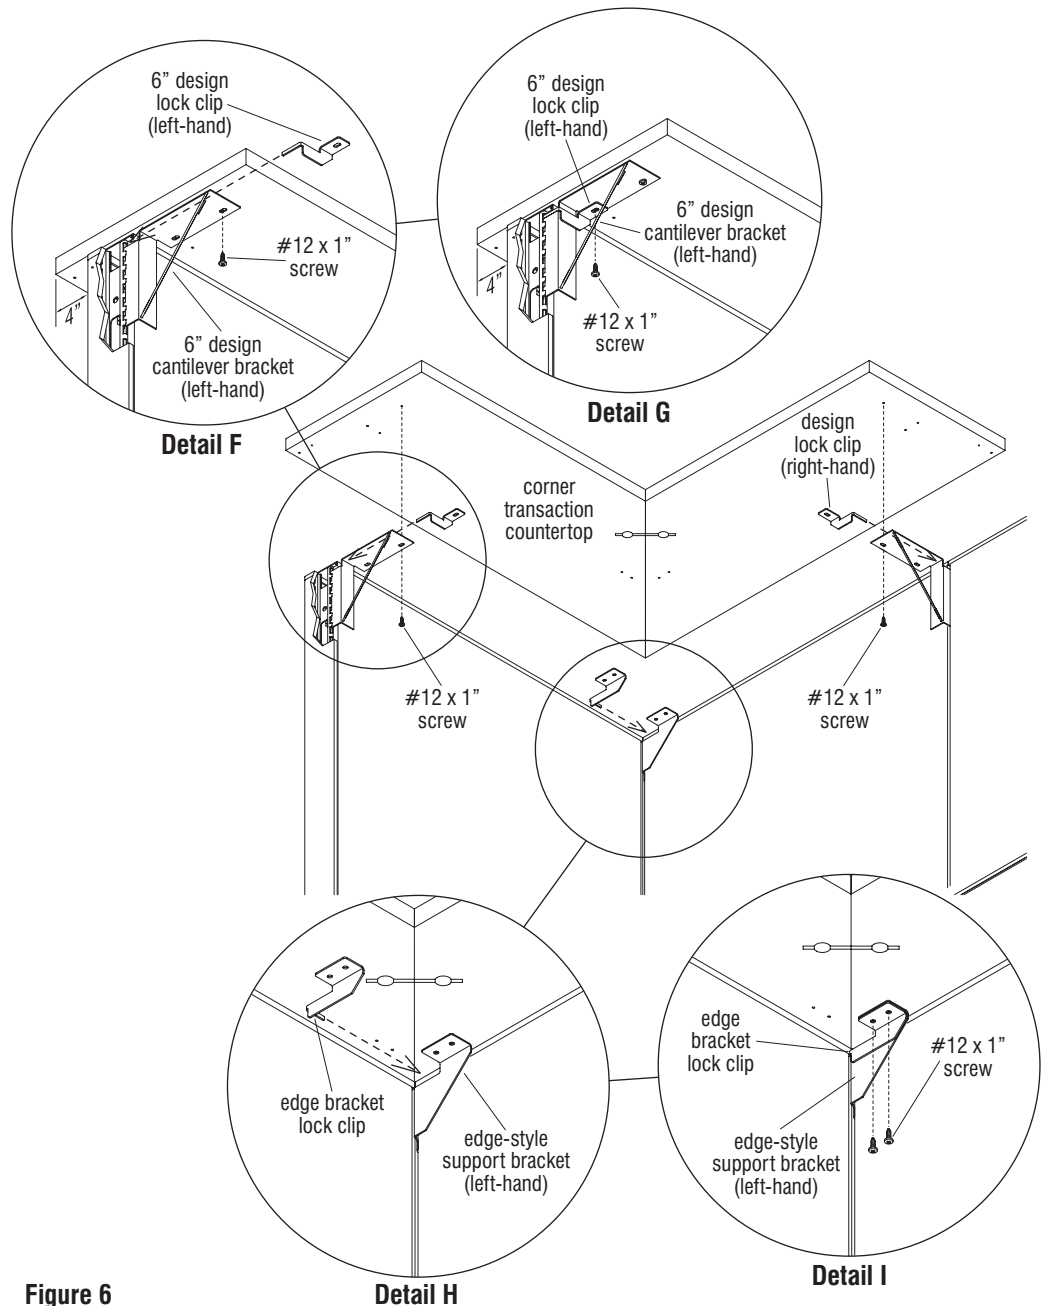

Figure 6
- After the two design cantilever brackets, as well as the corner edge-style bracket have been installed to the workstation side of the panel, position the corner transaction countertop assembly onto the brackets as illustrated, with the smaller, 4" countertop overhang into the aisle side. Align mounting holes of the brackets with the pre-drilled holes in the underside of the corner transaction countertop. Using one #12 x 1" screw per bracket at the front side of the bracket (hole closest the worksurface user), secure the bracket to the transaction countertop as illustrated (Figure 6 & Detail F).
- Position a design lock clip as illustrated (Detail F) and insert the thin prong end of the clip into the top panel notch, just above the top tooth of the left-hand design cantilever bracket. Fully inserted properly, the mounting hole of the lock clip will align over the unused mounting hole in the cantilever bracket. Insert and tighten the second #12 x 1" screw to secure the clip over the cantilever bracket, and to the corner transaction countertop (Figure 6 & Details F & G).
the corner transaction countertop (Figure 6 & Details H & I). Finally, check and assure that all bracket mounting screws are tight. The corner transaction countertop should be snug and no movement should be felt (Figure 6 & Details H & I).